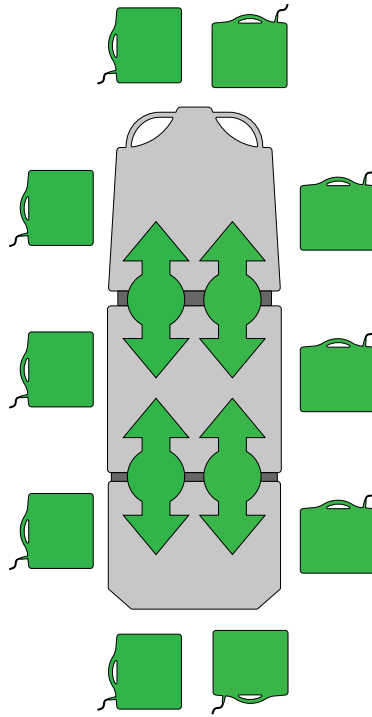

Figure 35 – Inserting or removing X-ray cassettes on Prime X
1. Center the patient on the product with the position indicator labels located on all sides of the product (Figure 35).